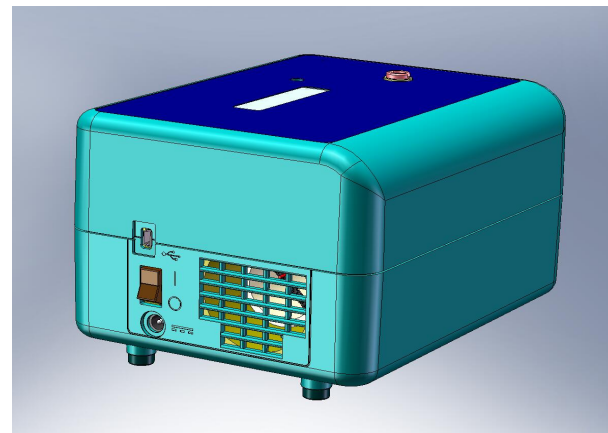

Figure 5 Side view of Vernier Mini GC
- a. Turn on the Mini GC Plus, using its on-off switch on the left side (see Figure 5).
Figure 5 shows a side view of the Vernier Mini GC Plus. The power input jack, power switch, USB connection to the computer or LabQuest, and column ventilation grill are shown in this view.